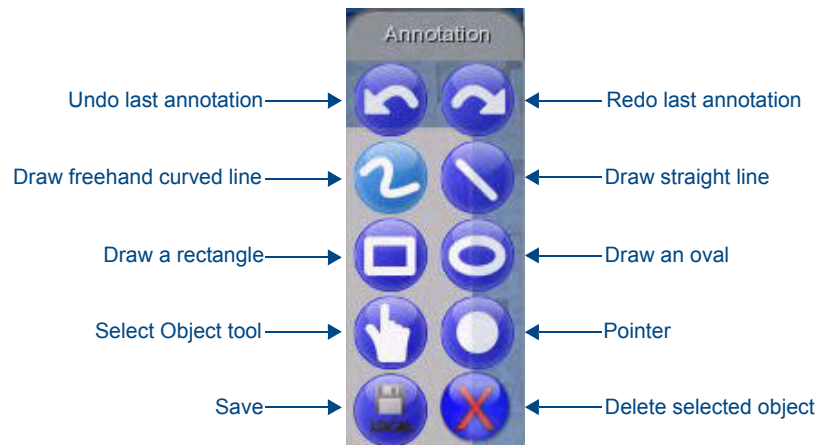

FIG. 101 TakeNote Menu Bar - Annotation Tools
The top portion of the TakeNote Menu Bar contains the main annotation tool set (FIG. 101):
1. Select the Freehand Curved Line tool from the TakeNote Menu Bar (see FIG. 101).
Use the Rectangle tool (see FIG. 101 on page 171) to draw squares and rectangles.